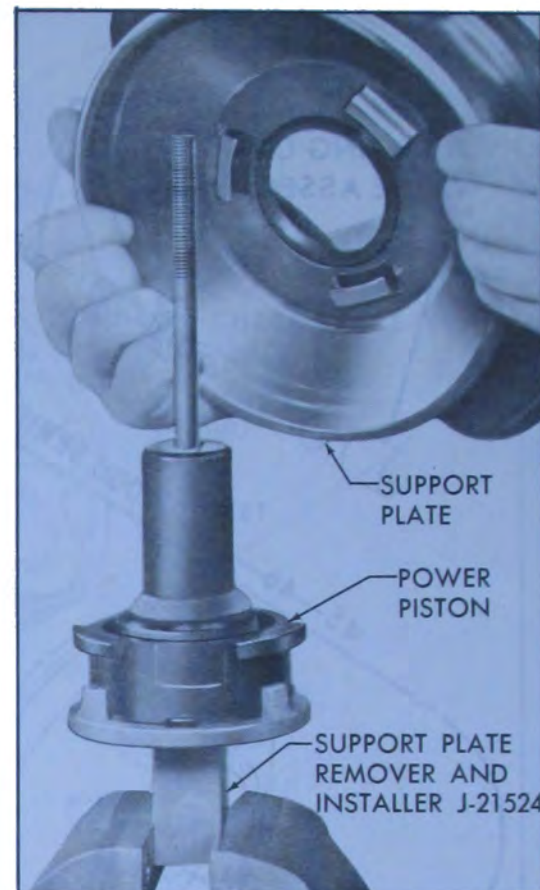

Figure 50-59—Removing Support Plate
7. Press down on support plate and rotate counterclockwise until support plate separates from power piston. See Figure 50-59.